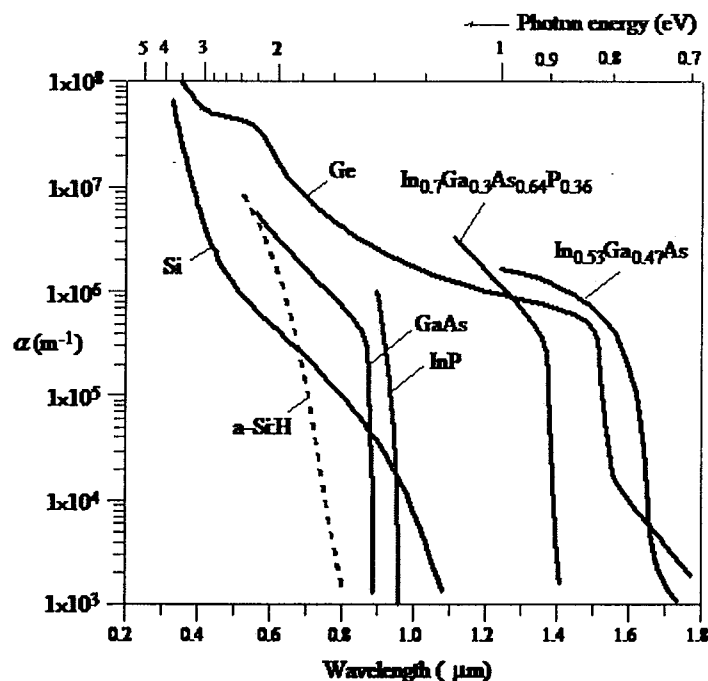

Figure 5
7. [a] A plot of photon energy vs. absorption coefficient is given in Figure 5. Given a p-i-n photodiode with intrinsic width, $W = 40\mu\text{m}$ with p^+ layer of $0.1\mu\text{m}$. The diode is illuminated with optical pulse with wavelength of 900nm and incident light intensity, I_{ph} of 0.1mWcm^{-2} . Given that the drift velocity of the electrons in the intrinsic layer is 10^6ms^{-1} whereas drift velocity for holes is 10^5ms^{-1} . Answer the following questions.
- (v) Based on the graph in Figure 5, suggest a material which could be suitable to detect infra-red radiation. Explain your answer.